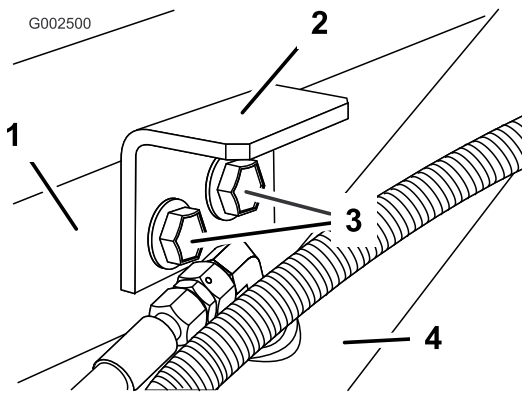

Figure 17
3. Install the hold-down brackets using the two bolts and flange nuts removed previously (Figure 17).